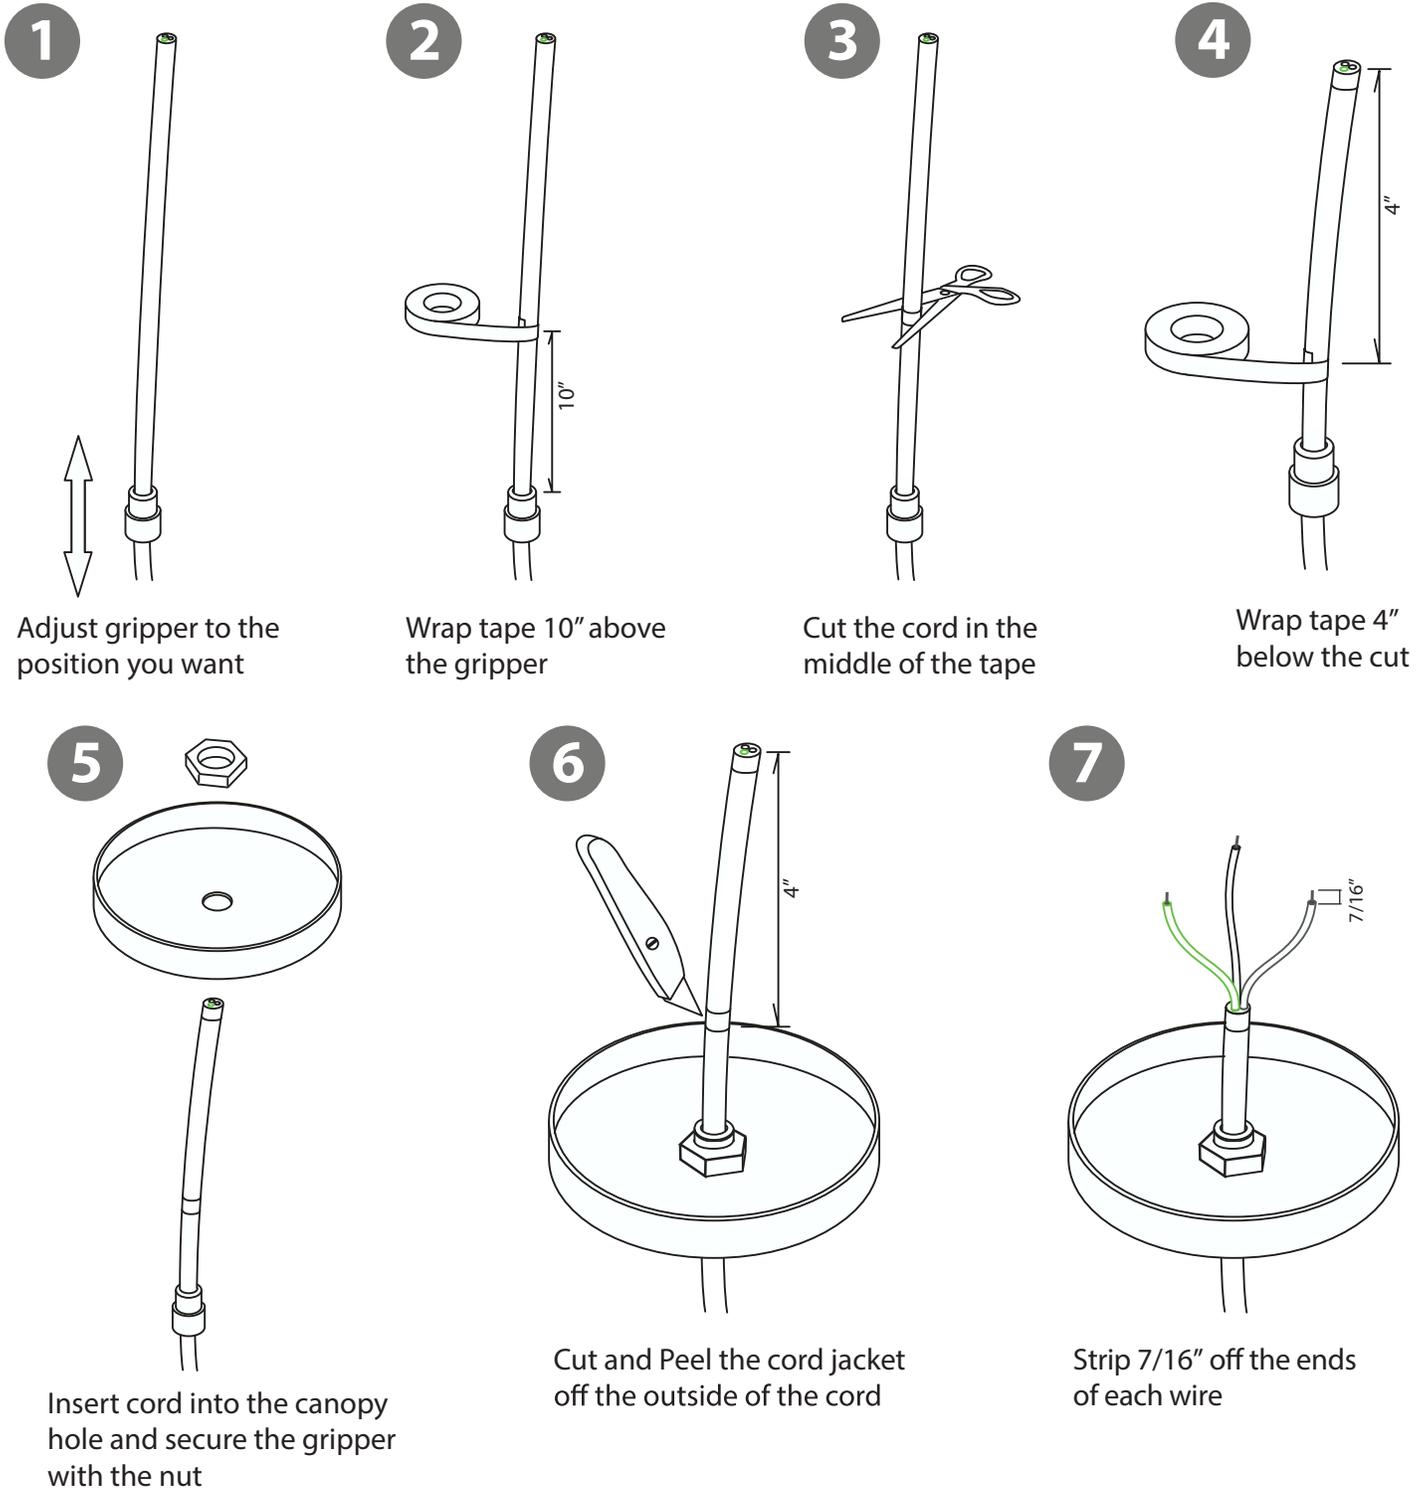

Figure 2
3. Loosen strain relief screw(14) and insert the fabric-covered wire(15) to the required length. Wind the excess wire into a loop, then secure it so that it doesn't come undone. Then tuck it into the canopy(13).
- (A) Use optional Cord Cutter (order separately - No. 99051); or
- (B) Use manual method (*see Figure 2*). To avoid fabric fraying, first determine the overall length of the cable then adjust the gripper to the position desired. Wrap electrical tape 10" above gripper. Cut the cord in the middle of the tape. Wrap tape 4" below the cut. Insert cord into canopy hole and secure the gripper with the nut. Carefully cut and peel only the outside jacket of the cord to expose individual wires; strip wire ends to expose 7/16" of stranded wire.